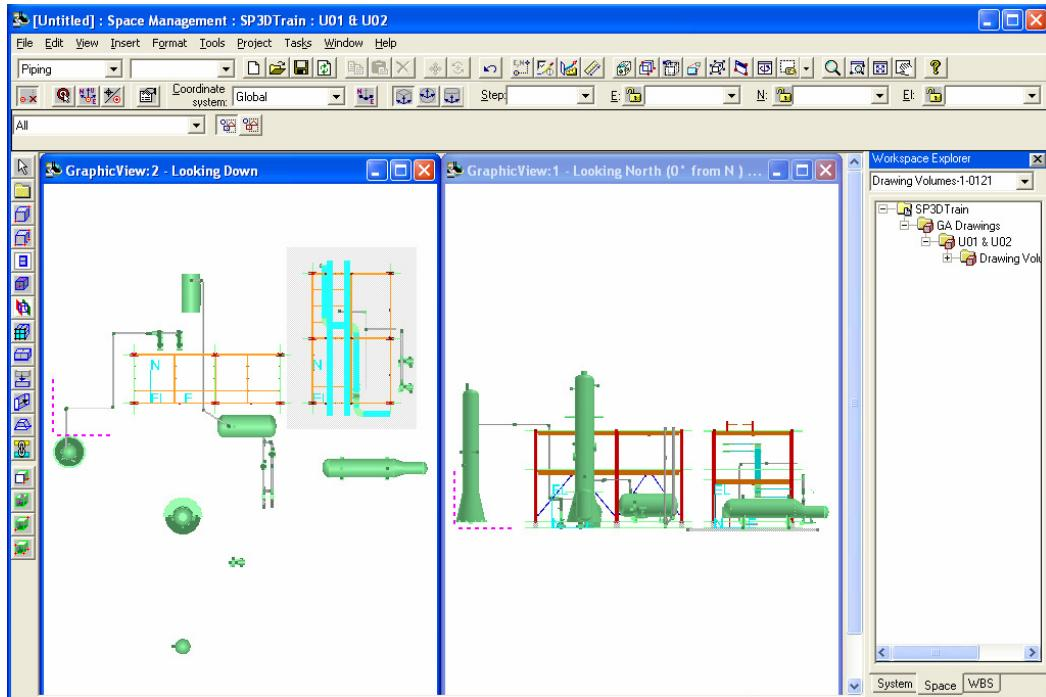

Figure 16: Two Graphic Views - Looking Down and Looking North
2. Open two graphics views and orient them **Looking Down** and **Looking North**, as shown in Figure 16.